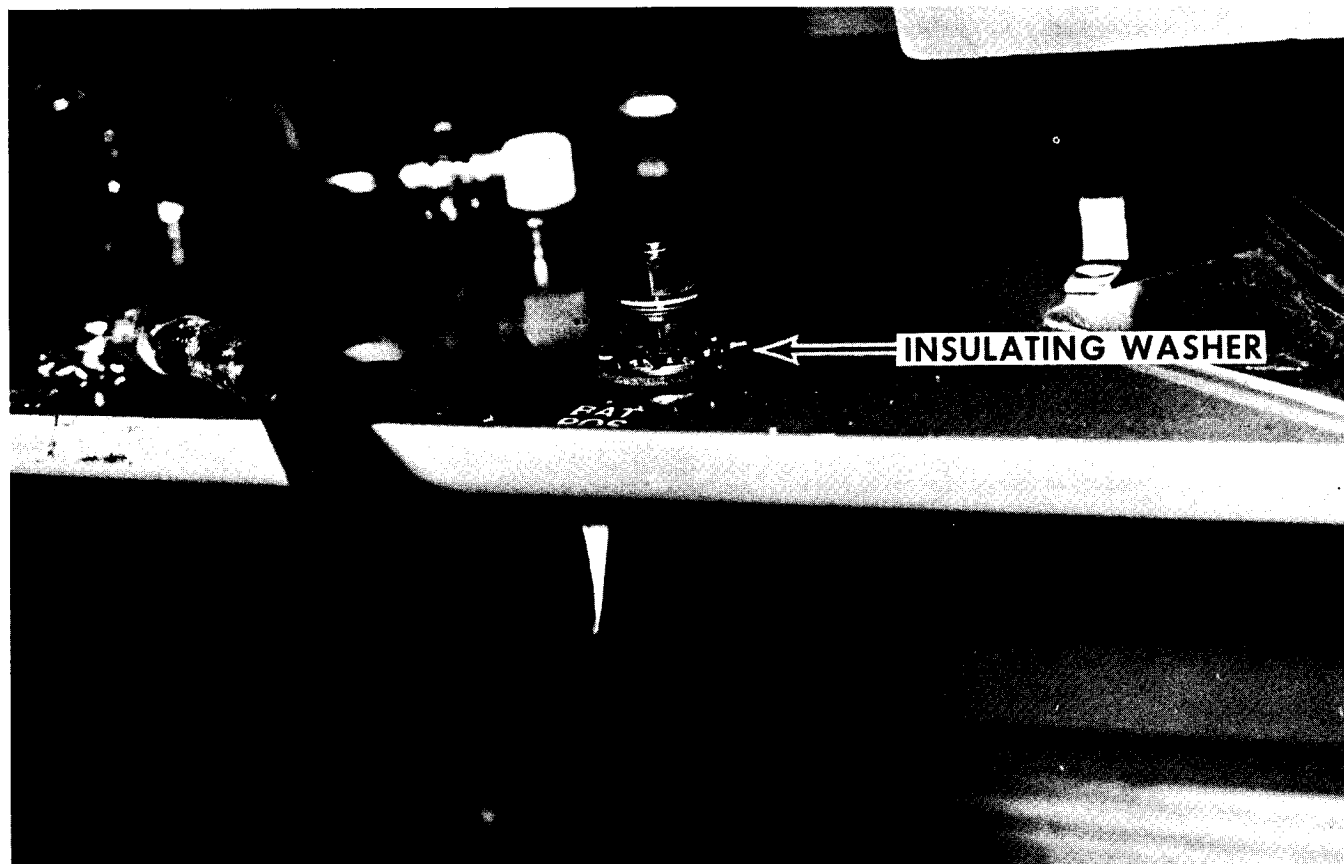

Figure 3
9. Install cable on stud making sure that the insulating washers are installed as shown in Figure 3.